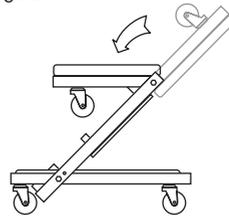

Figure 4 – Adjusting Creeper to Seat configuration
1. Unlock the spring-loaded Lock Pin by pulling out until disengaged, at the same time rotate the Head Frame and Middle Frame upward and back towards the Rear Frame section until the Lock Pin can engage the Creeper Seat Locking Sleeve (Fig. 4). Ensure Lock Pin is fully engaged.